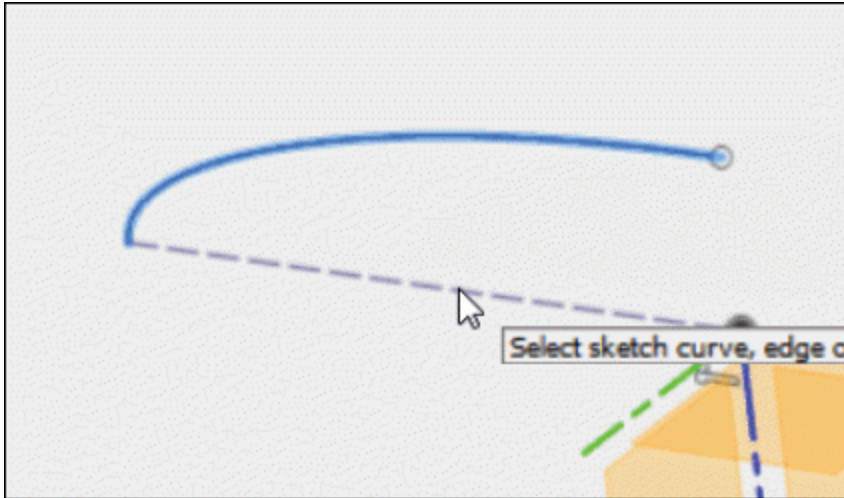

Figure-39. Selecting sketch and axis
- You need to select the sketch and axis of sketch to apply the revolve feature; refer to Figure-39.